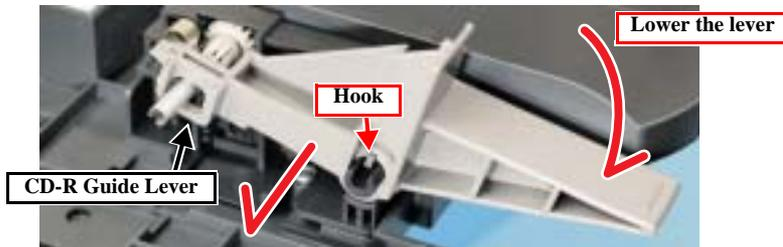

Figure 4-34. Removing the CD-R Guide Lever
3. Release the hook, and remove the CD-R Guide Lever. (Fig. 4-34)